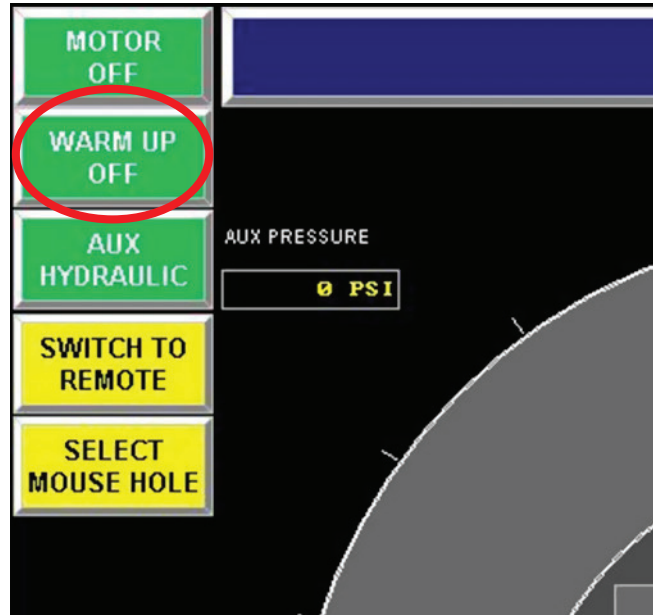

Figure 2: HMI Screenshot for Omron PLC.
7. For rigs with Omron PLC controls, press **WARM UP ON** on the main HMI screen. See Figure 2.